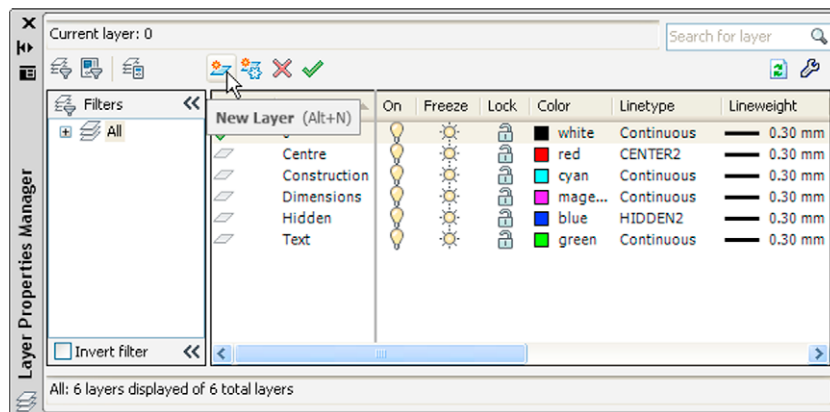

Fig. 4.16 The Layer Properties Manager palette
1. At the command line *enter* **layer** or **la** followed by a *right-click*. The **Layer Properties Manager** palette appears (Fig. 4.16).